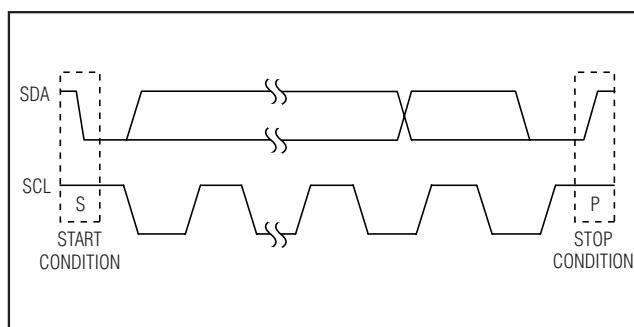

Figure 10. Start and Stop Conditions
Both SCL and SDA remain high when the interface is not busy. A master signals the beginning of a transmission with a START (S) condition by transitioning SDA from high to low while SCL is high. When the master has finished communicating with the slave, it issues a STOP (P) condition by transitioning the SDA from low to high while SCL is high. The bus is then free for another transmission (Figure 10).